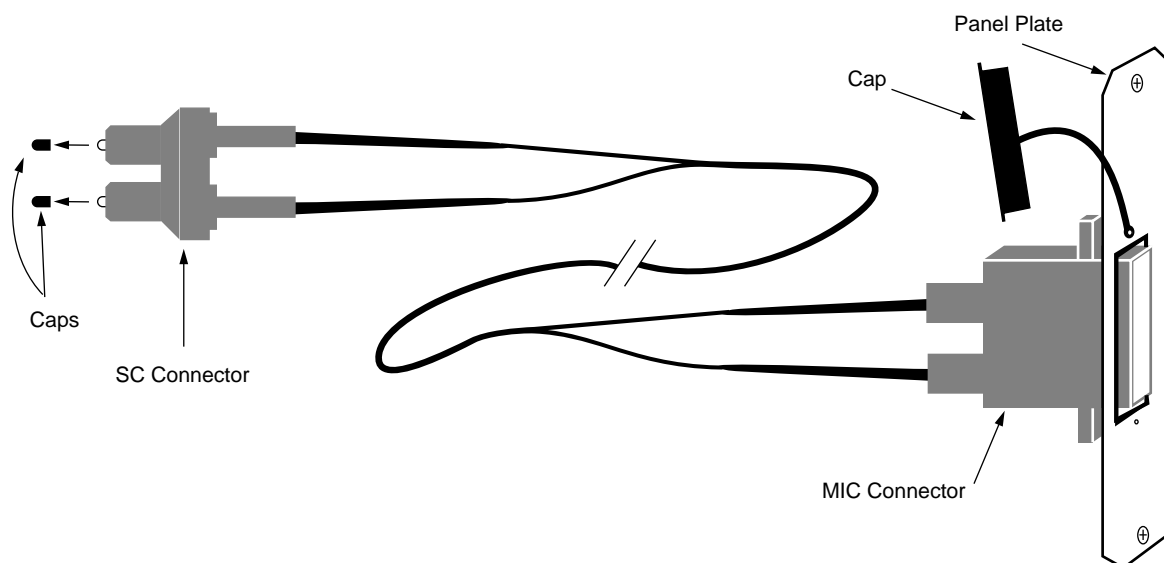

Figure 2-23 IRIS ATM Internal Cable Assembly
8. From the sheets of labels, remove a small-sized label with the identification created in the previous step. Attach the label to the outside of the ATM I/O panel plate that is attached to the internal cable assembly (illustrated in Figure 2-23).
1. Locate the internal cable assembly that consists of two fiber optic lines terminated inside an SC connector at one end and a MIC receptacle attached to the ATM I/O panel plate at the other end, as illustrated in Figure 2-23.